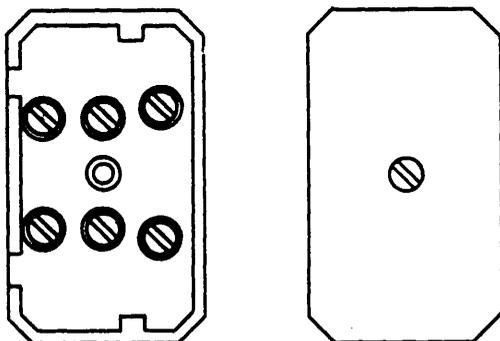

Figure 12. GTE AE D-15922-A Connecting Block.
3.01 The GTE AE D-15922-A block is a six-conductor device modified from an earlier four-conductor design which had provided two screws per terminal. In the later version (Figure 12), each of six screws is used to terminate a separate conductor. Terminals are designated L1, L2, 3 and 4G. The block is molded of black phenolic and arranged with a tubular metal stud in the center which serves to retain a ring-band strain relief and is tapped to accept the single captive screw used to retain the matching cover. The design is not suitable for any other type of strain relief and has no provision for intertwining the station wire conductors to secure them in place. The cover is slotted at the top and bottom for cord and station wire entry, and a wire entry hole is provided in the base of the block.